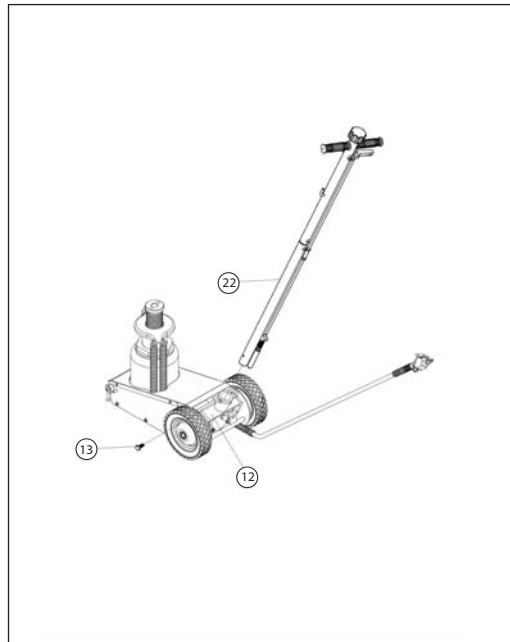

Figure 2
### 2. Insert Handle (22) into the Handle socket (12) and secure with bolt (13). (See figure 2 below)